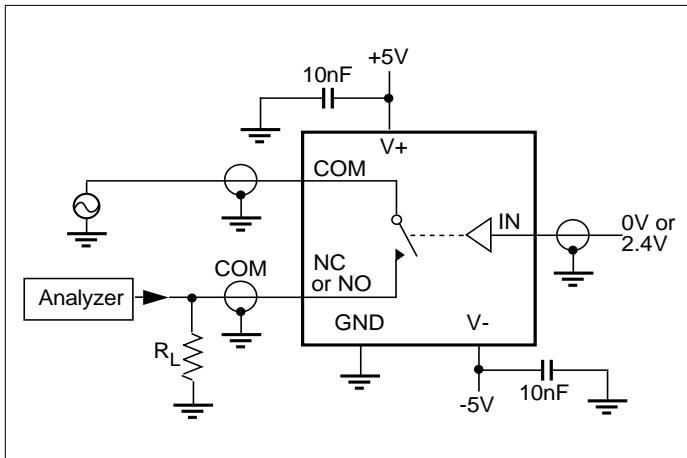

Figure 5. Off Isolation
7. Off Isolation = $20\log_{10} [V_{COM} / (V_{NO} \text{ or } V_{NO})]$. See figure 5.